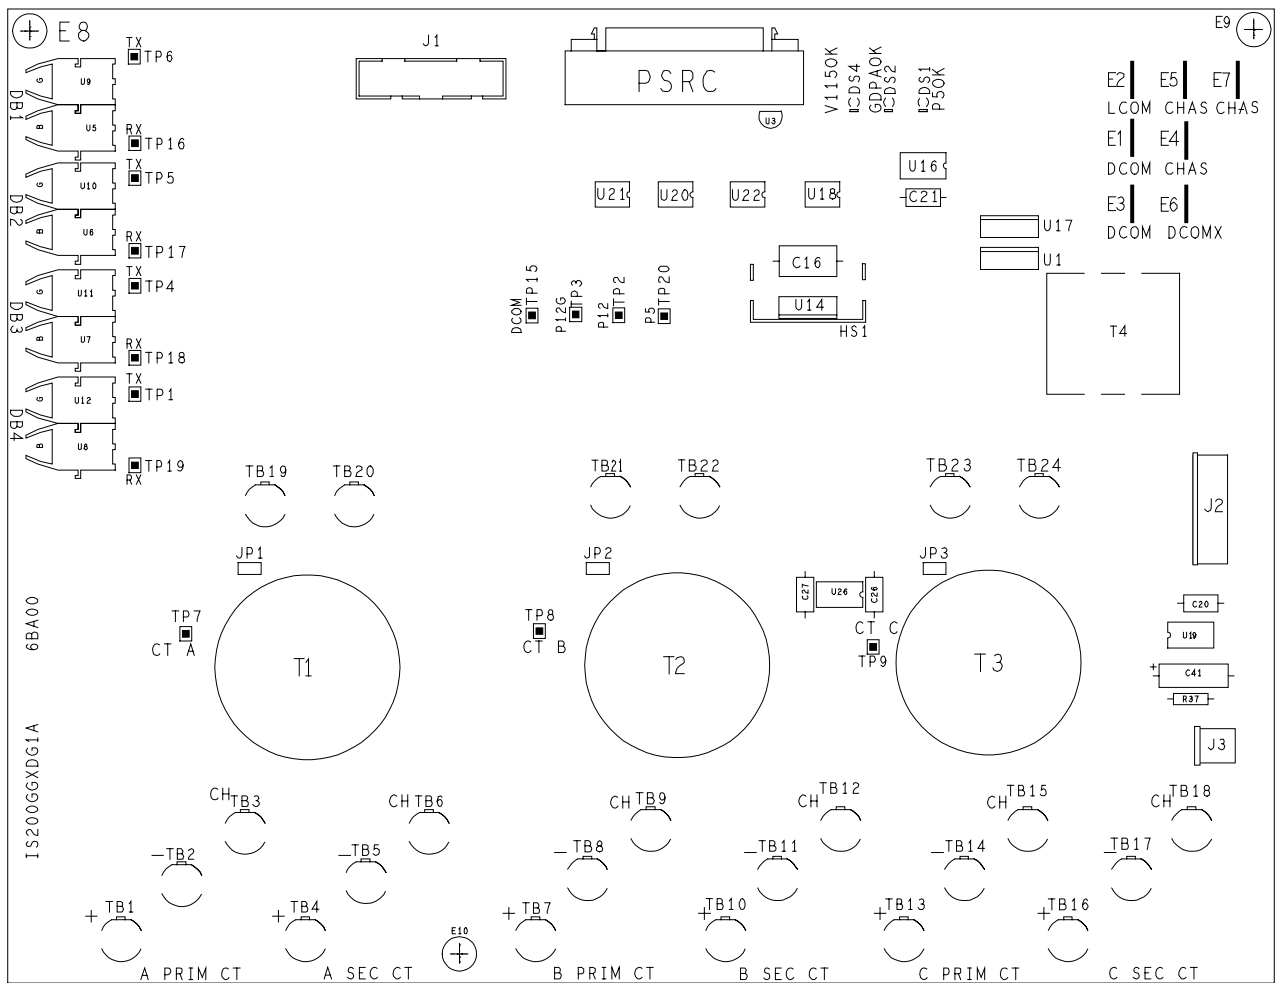

Figure 1. GGXD Board Layout
Three LED indicators display status of the GGXD board as follows: (See Figure 1 for locations.)
The GGXD board includes fifteen testpoints for signal monitoring. Most of these can be accessed from the board front. See Figure 1 for locations and Table 3 for descriptions.
- Phase A Primary TB1, TB2, TB3; See Figure 1 and Table 4.
- Phase A Secondary TB4, TB5, TB6; See Figure 1 and Table 5.
- Phase B Primary TB7, TB8, TB9; See Figure 1 and Table 6.
- Phase B Secondary TB10, TB11, TB12; See Figure 1 and Table 7.
- Phase C Primary TB13, TB14, TB15; See Figure 1 and Table 8.
- Phase C Secondary TB16, TB17, TB18; See Figure 1 and Table 9.
- TB19, TB20 - Phase A CT burden resistor inputs, See Figure 1 and Table 10.
- TB21, TB22 - Phase B CT burden resistor inputs, See Figure 1 and Table 11.
- TB23, TB24 - Phase C CT burden resistor inputs, See Figure 1 and Table 12.
- Connector J1 (20 pin) is the input connector from the Voltage Feedback Attenuator Board (NATO). See Figure 1 and Table 13.
- Connector J2 (6 pin) is the input connector for power from the Gate Driver Power Assembly Board (GDPA). It also receives the GDPA OK signal that is displayed by DS2. See Figure 1 and Table 14.
- Connector J3 (2 pin) is the input connector for monitoring the 115 V ac control power feeding the GDPA boards. See Figure 1 and Table 15.
- Connector PSRC (50 pin) is an input/output (I/O) connector with the Bridge Interface Controller Board (BICI). See Figure 1 and Table 16.
Four duplex receive/transmit fiber-optic connectors (DB1, DB2, DB3, DB4) are included on the GGXD board for firing commands/ status feedback of the DB IGCTs. Receiver connectors are blue and the transmit connectors are gray. See Figure 1 and Table 17.
Berg jumpers JP1, JP2, and JP3 are 2 pin jumpers used for burden resistor selection for the current transformers (CT). See Figure 1 for jumper location and Table 1 for the setting descriptions.